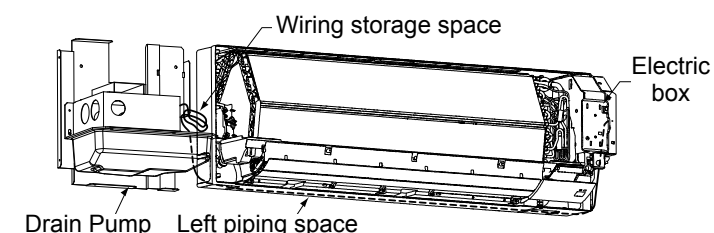

Fig. 11
- Route the wiring through the left piping space of the indoor unit to the electric box as shown in Fig. 11.